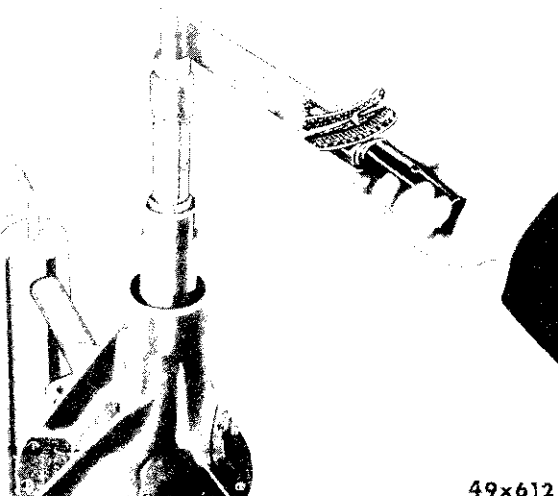

Fig. 21—Checking Pre-Load Torque (Inch Pounds)
- (7) Correct bearing pre-load readings can only be obtained with the nose of the carrier up. Use inch pound torque wrench C-685. With the handle of the wrench floating, read torque when the wrench is moving through at least one full rotation. Correct reading is 20 to 30 inch pounds and should be uniform during the full rotations (Fig. 21). If bearing pre-load is more than 30 inch pounds, a thicker shim should be used under front bearing. If bearing pre-load is less than 20 inch pounds, a thinner shim should be used. Shims are available in thicknesses of .010, .012, .014, .016, and .018 inch. After proper bearing pre-load is established, do not remove the tool.